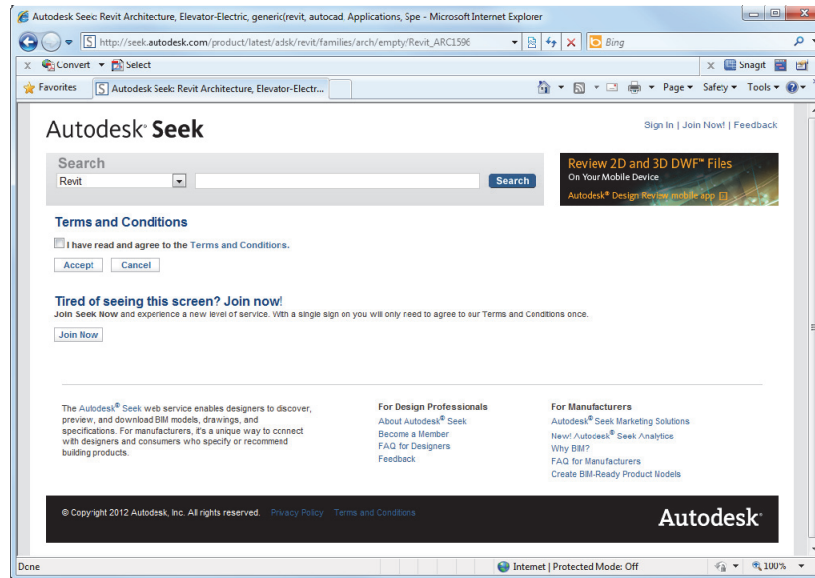

FIGURE 3-4.5 Seek.com terms and conditions
7. If you wish to proceed, you need to check the box and click *Accept* for the *Terms and Conditions* of Autodesk Seek participation (Figure 3-4.5).